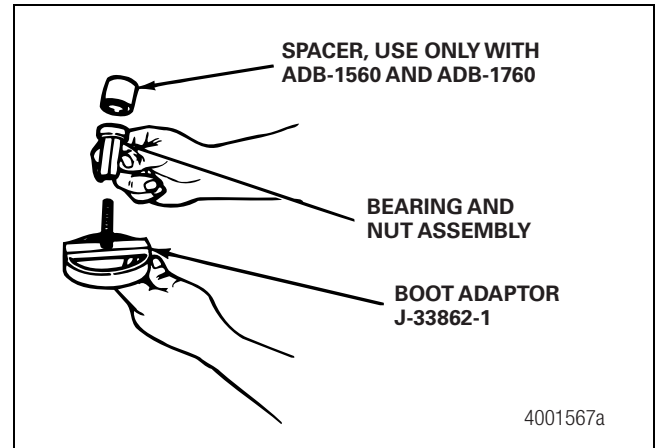

Figure 5.13
2. Install the bearing and nut assembly onto the threads of the boot adaptor threads. Figure 5.13.